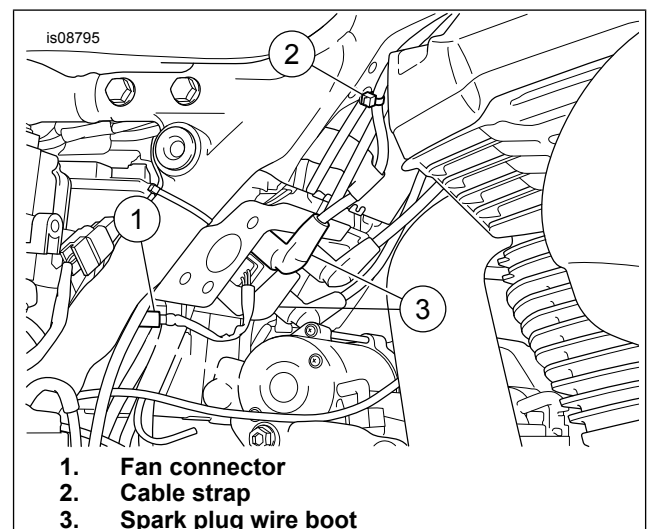

Figure 1. Fan Connector
7. See Figure 1. Locate the fan connector (1) and unplug.
- When repositioned, the right spark plug wire boots (3) on the coil pack should be facing toward the left side of the vehicle.
- See Table 1. There are holes in the frame to support the use of Christmas tree cable straps (12) to help properly route a wire harness or secure spark plug wires.
- When routing the spark plug wires (2) make sure there is enough clearance between the frame and engine assembly.
8. See Figure 1. Reposition right side spark plug wire boots.
- b. Rotate top spark plug boot (3) toward the left side of the vehicle.
- c. Rotate bottom spark plug boot (3) toward the left side of the vehicle.
- d. Reroute wires. Install cable straps (2) as needed.